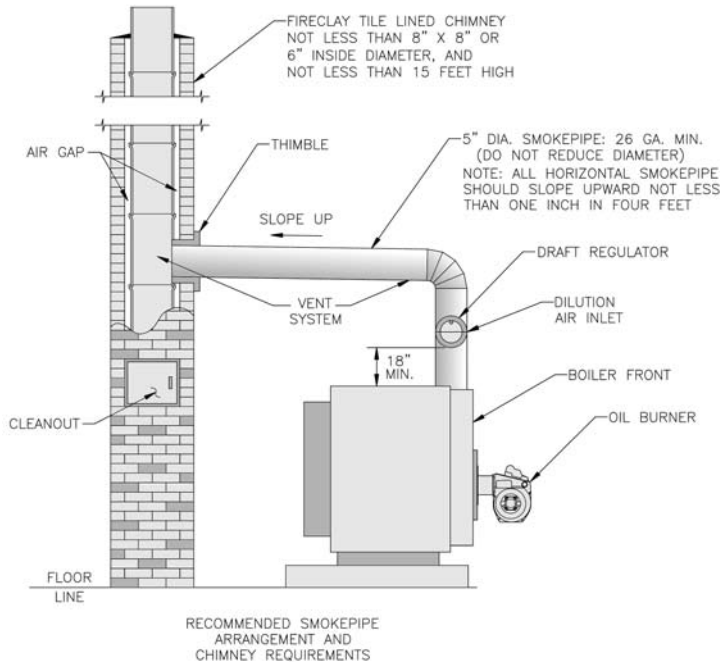

Figure 7
- 8. INSTALL SMOKEPIPE** — The TES boiler should be vented into a fireclay tile-lined masonry chimney or a chimney constructed from Type L Vent or a factory built chimney that complies with the Type HT requirement, of UL103. The chimney and vent pipe shall have a sufficient draft at all times, to assure safe proper operation of the boiler. See Figure 7 for recommended installation.